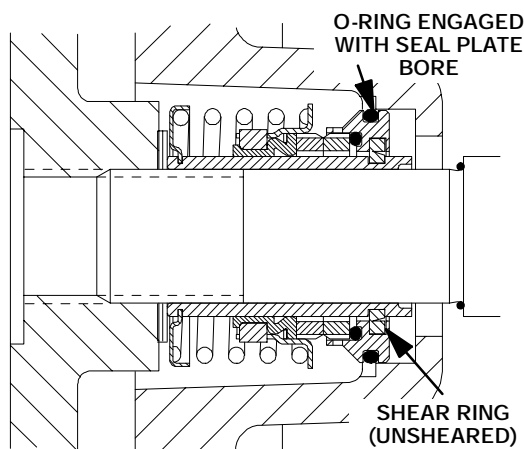

Figure 21. Seal Partially Installed
Clean and inspect the impeller as described in **Impeller Installation and Adjustment**. Install the full set of impeller shims (28) provided with the seal, and screw the impeller onto the shaft until it is seated against the seal (see Figure 21).